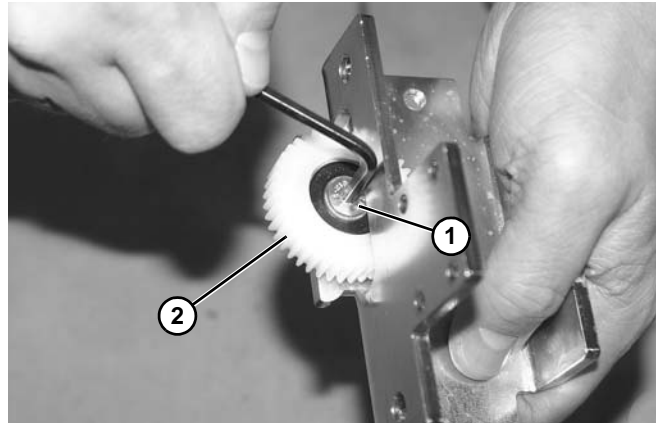

Figure 72
4. Remove screw (Figure 72, item 1) holding idler gear (Figure 72, item 1) onto motor mounting bracket.